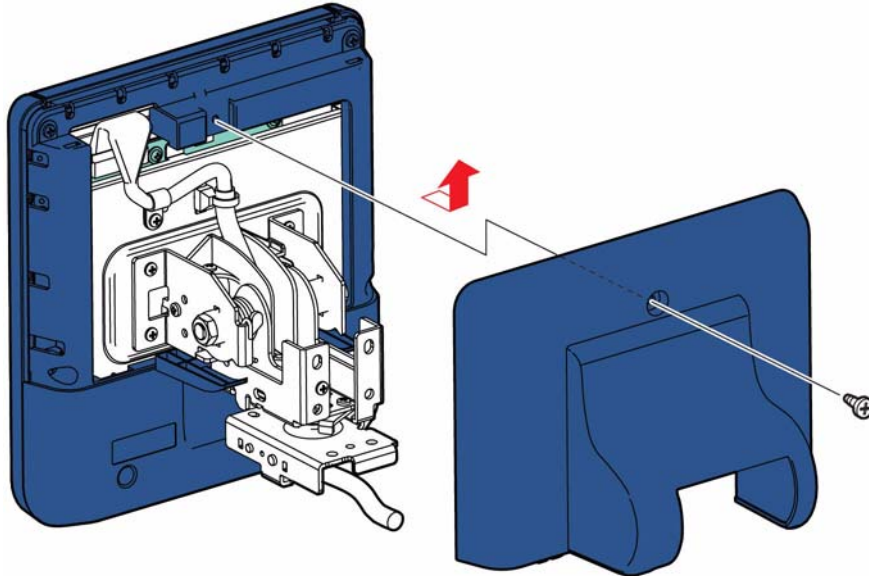

Figure 1 Remove the Upper Rear UI Cover
2. Refer to Figure 1 to locate and remove 1 screw (silver, tapping, M3, 8mm) that secures the cover.